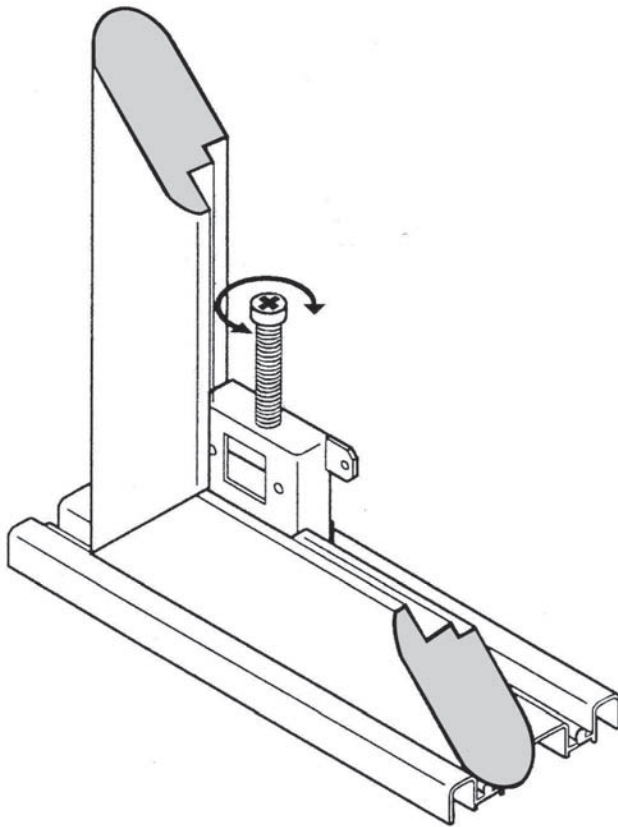

Figure 4
- A. Slide the front Panel (#1) to the side closest to the room's entrance door (This is how the Wardrobe Doors will be in position to look their best). Look at the space between the door edge and the wall. You want the door edge and the wall to be flush. If you see space at the top or bottom edge of the Panel (#1), turn the adjusting screw on top of the Steel Wheel Assembly (#12) on the lower back of the Panel (#1) nearest the wall. Turn the screw left or right until the Panel (#1) aligns flush with the wall (See Figure 4).